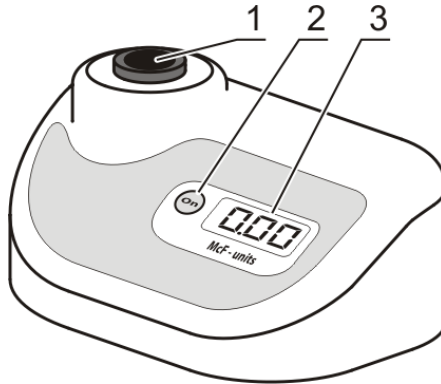

Figure 2. Front view
- Check if the A-16 adapter is in the socket (fig. 2/1). The device is calibrated for operation with the glass tubes 16 mm in external diameter. To use different tubes, recalibrate the unit, see the **Calibration** section of the manual.
5.3. The following indication may be shown on the display (fig. 2/3):
Note. The display of **DEN-1B** switches off if the socket is empty for longer than one minute. Press the **On** key (fig. 2/2) to activate the unit.
5.6. Insert the tube into the socket of densitometer (fig. 2/1). The McFarland value for the solution will be shown on the display (fig. 2/3).
- 6.6.2. **Transparent standard.** Display shows □.□□ indication. Insert standard for **0.00** value into the socket (fig. 2/1) of the unit. If the standard for 0.00 value is not available, fill the tube (of the kind that is used for operations) with distilled water. Use the tube as the **0.00** value standard. Press **Install** button to save transparent standard value. Display shows next required calibration value.
6.7. **Common calibration rules.** Display shows indication of necessary calibration value. Insert the necessary standard into the socket (fig. 2/1) of the unit and press the **Install** button to save the value for current standard.